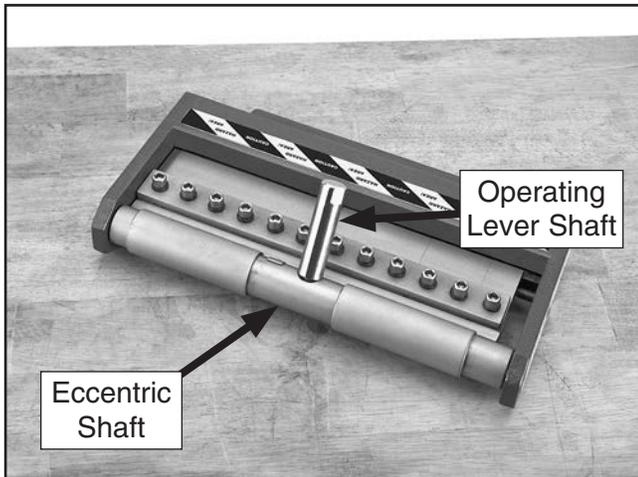

Figure 3. Operating lever shaft installed.
1. Thread the operating lever shaft (see **Figure 3**) into the eccentric shaft, and tighten it with the wrench.